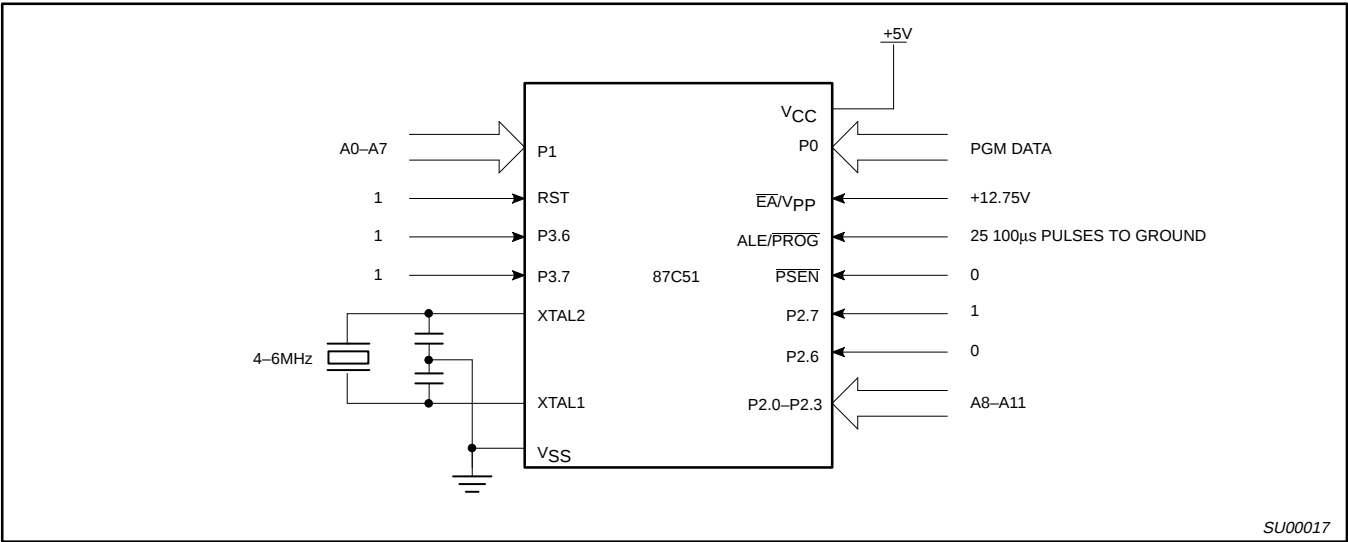
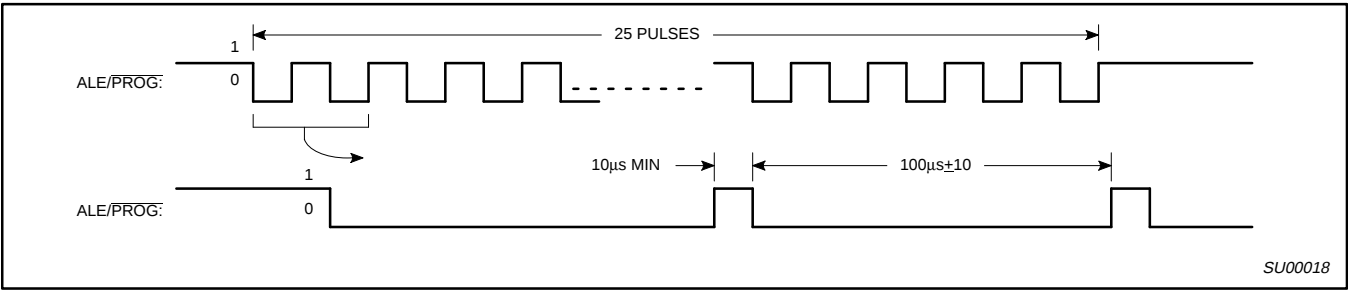
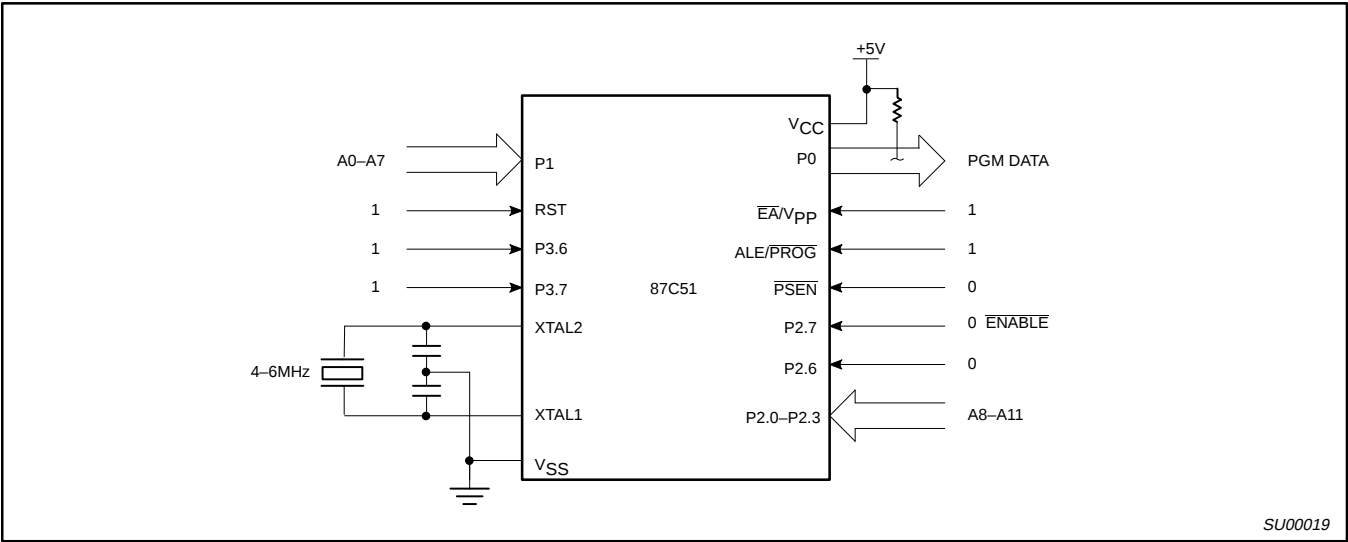

Figure 13. Programming Configuration
Figure 14. PROG Waveform
Figure 15. Program Verification
Table 3 shows the logic levels for reading the signature bytes, and for programming the program memory, the encryption table, and the security bits. The circuit configuration and waveforms for quick-pulse programming are shown in Figures 13 and 14. Figure 15 shows the circuit configuration for normal program memory verification.
The setup for microcontroller quick-pulse programming is shown in Figure 13. Note that the 87C51 is running with a 4 to 6MHz oscillator. The reason the oscillator needs to be running is that the device is executing internal address and program data transfers.
The address of the EPROM location to be programmed is applied to ports 1 and 2, as shown in Figure 13. The code byte to be programmed into that location is applied to port 0. RST, $\overline{PSEN}$ and pins of ports 2 and 3 specified in Table 3 are held at the 'Program Code Data' levels indicated in Table 3. The ALE/PROG is pulsed low 25 times as shown in Figure 14.
If security bit 2 has not been programmed, the on-chip program memory can be read out for program verification. The address of the program memory locations to be read is applied to ports 1 and 2 as shown in Figure 15. The other pins are held at the 'Verify Code Data' levels indicated in Table 3. The contents of the address location will be emitted on port 0. External pull-ups are required on port 0 for this operation.
- * FOR PROGRAMMING VERIFICATION SEE FIGURE 13.
FOR VERIFICATION CONDITIONS SEE FIGURE 15.